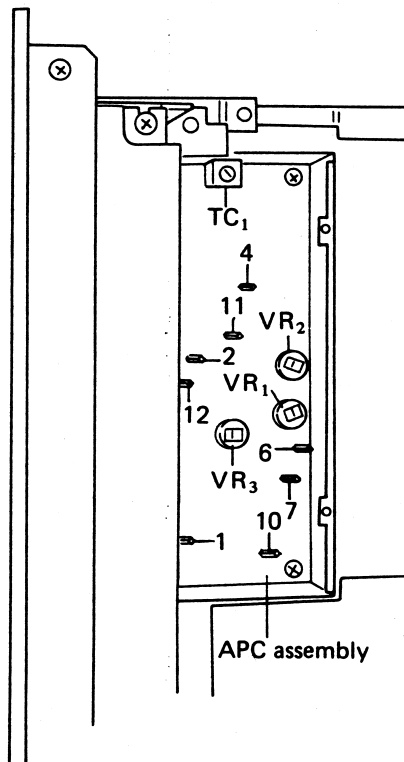

Fig. 7-2
5. Adjust the VR3 of the APC ass'y to obtain a reading of +8V on the DC voltmeter (refer to Fig. 7-2).